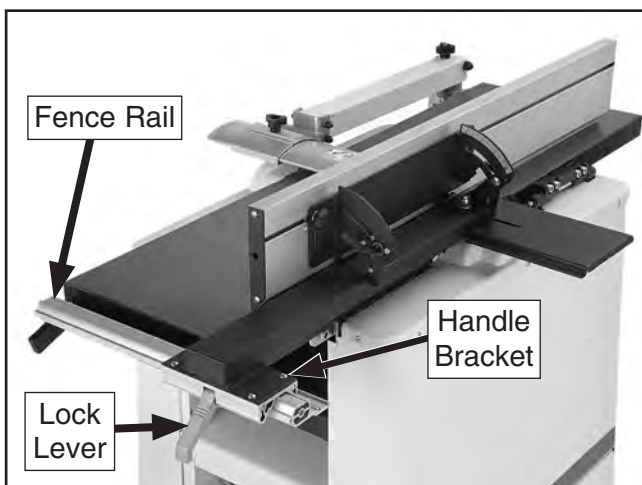

Figure 10. Fence installed.
1. Pull up on the fence lock lever, then place the fence assembly onto the table fence rail, as shown in **Figure 10**.